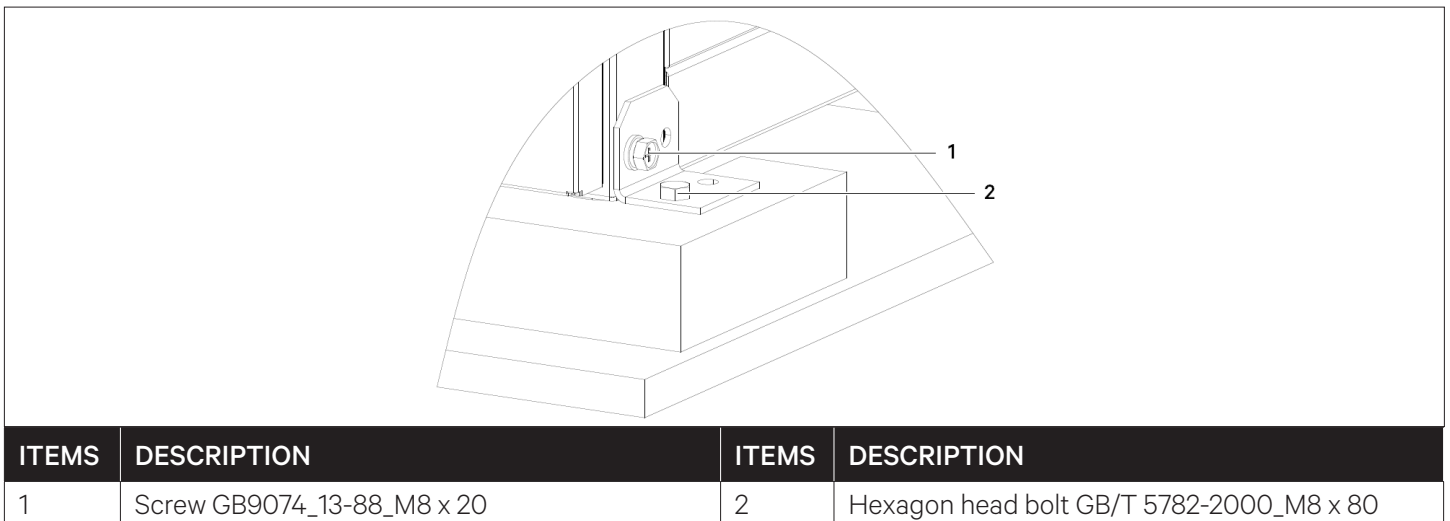

Figure 2-5 Bottom Pallet Screw Fixing Position
2. Remove the bottom pallet, the unit is fixed on the bottom pallet with M8x20 and M8x80 screws (as shown in Figure 2-5), and a 17 mm open wrench, ratchet wrench or socket can be used for disassembly.